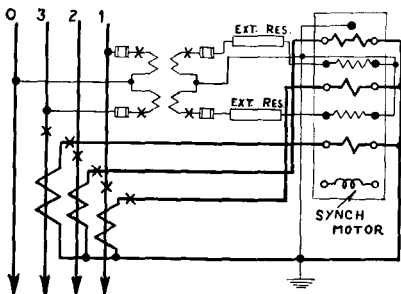

FIG. 51—THREE CURRENT COIL WATTMETER, FLUSH TYPE ONLY
*These diagrams show coils connected to stud pairs arranged vertically as in projection type instruments. The internal coil connections of the flush type instruments terminate on studs arranged horizontally as shown in external diagrams, Figures 51 to 57 inc.